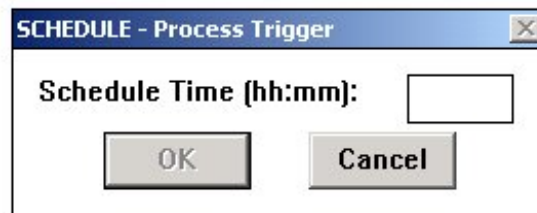

Figure 9-9: Schedule Process Trigger Dialog Box
6. On the Action menu, click Add Schedule Process Trigger. The Schedule – Process Trigger dialog box appears (Figure 9-9).